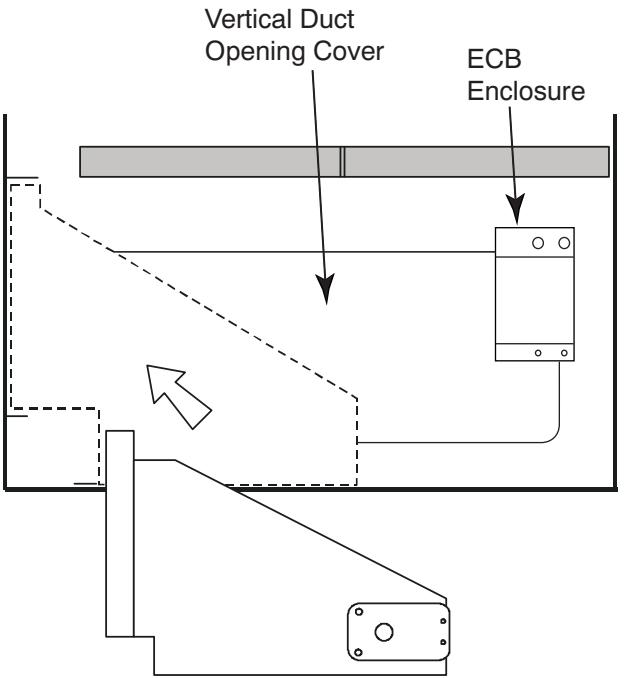
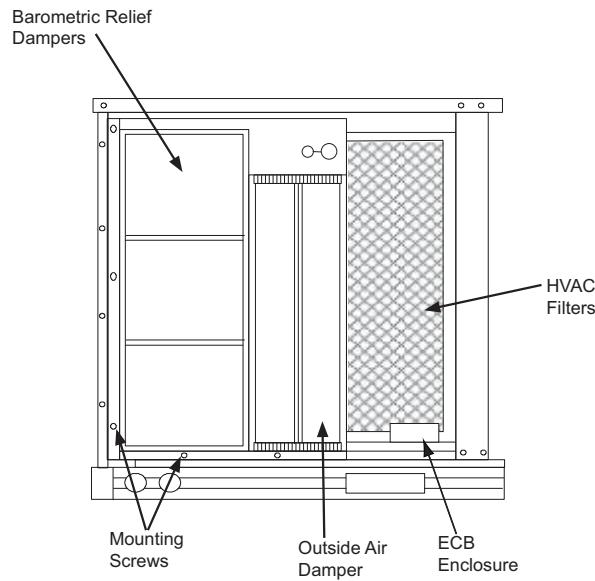

Fig. 3 - Top View of EconoMi\$er2 and Controller Installation
Fig. 4 - EconoMi\$er2 and Controller Installed In Unit
4. Review Fig. 3 and Fig. 4 for ECB box mounting location.
5. Remove one vertical duct opening cover screw and use it to secure the ECB Box Enclosure to the base pan of the unit per Fig. 3 and Fig. 4.